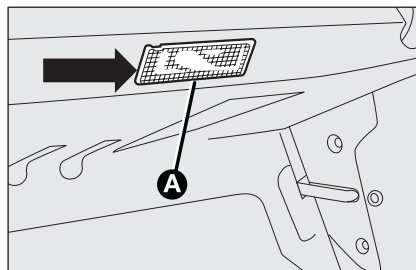

fig. 42
- ☐ remove the light unit **A-fig. 42** levering in the point shown by the arrow;